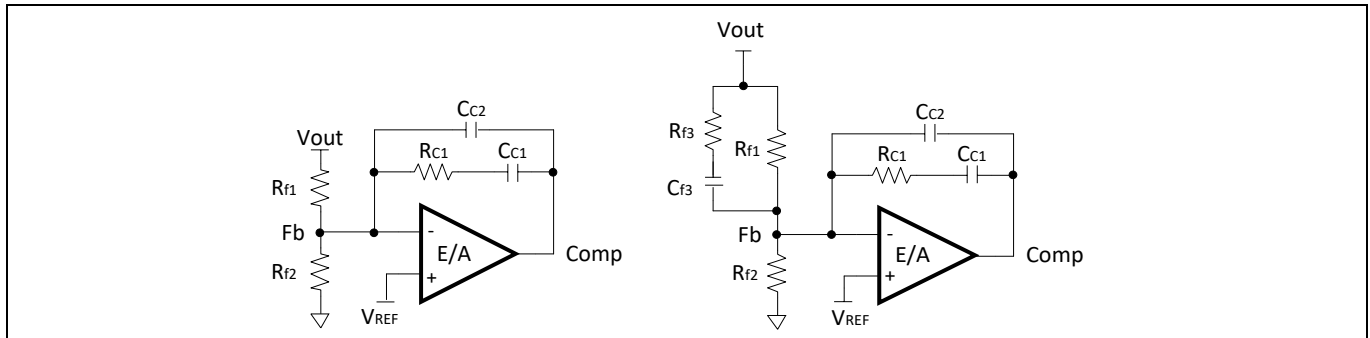

Figure 8 **Loop Compensator: (left) Type II, (right) Type III**
Two types of compensators are commonly used: Type II (PI) and Type III (PID), as shown in Figure 8. The selection of the compensation type is dependent on the ESR of the output capacitors. Electrolytic capacitors have relatively higher ESR. If the ESR pole is located at a frequency lower than the cross-over frequency, FC , the ESR pole will help to boost the phase margin. Thus, a type II compensator can be used. For the output capacitors with lower ESR such as ceramic capacitors, type III compensation is often desired.